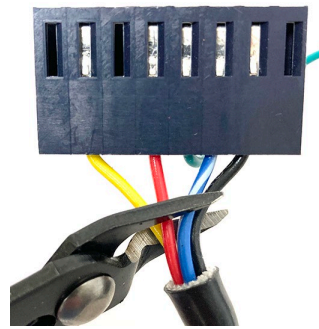

Figure 8
1. When connecting Capable Control Modules to a **NEW** GIVEG board, cut off the **LARGE** connectors of both 8075986 harness (see Figure 8).
1. When connecting Capable Control Modules to a **NEW** GIVEG board, cut off the **LARGE** connectors on both 8075897 harnesses (see Figure 8 above).